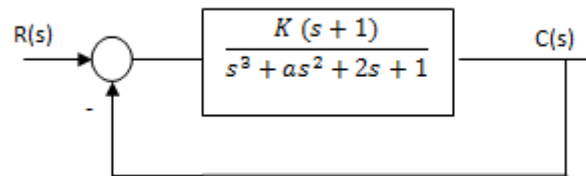

Figure 6
- 13) The system shown in Figure 6 oscillates with frequency (ω), if it has poles at $s = \pm j\omega$, which also satisfies the auxiliary equation. **Determine values of k, a so that the system oscillates at $\omega = 2 \text{ rad/sec}$.**